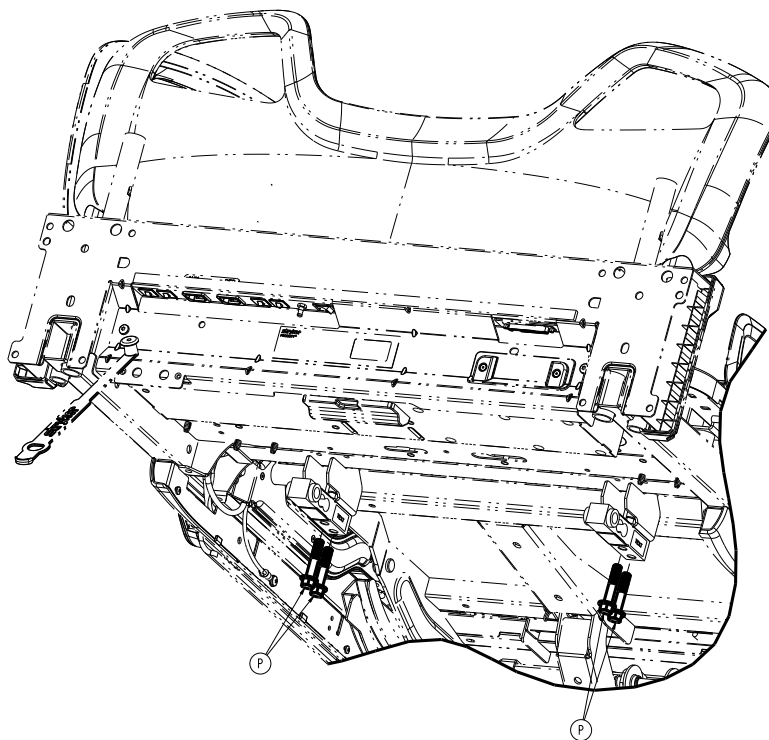

Figure 50 – Replacing the load cell
9. Remove the load cell. Using a ratchet, 9/16" socket, and a 9/16" combination wrench, remove the two bolts (P) and nuts that secure the load cell to the litter frame (Figure 50). Save the bolts and nuts.